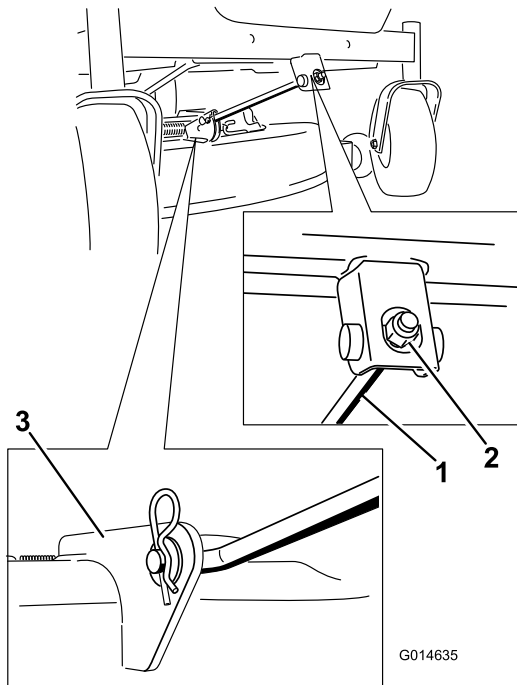

Figure 53
4. Remove the hairpin cotter from the front support rod, and remove the rod from the deck bracket (Figure 53). Carefully lower the front of the mower deck to the ground.
6. Attach the front support rod to the mower deck with the clevis pin and hairpin cotter (Figure 53).